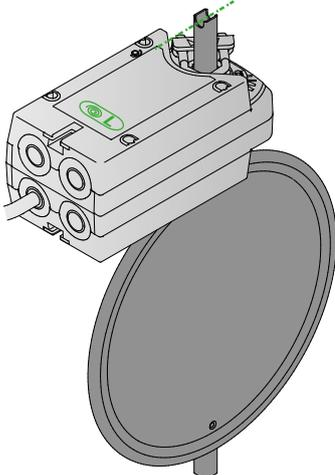

Figure 10. Damper open with jumper to the left (NO).
4. Refit spindle clamp and circlip. Then open the damper blade, see Figure 10.